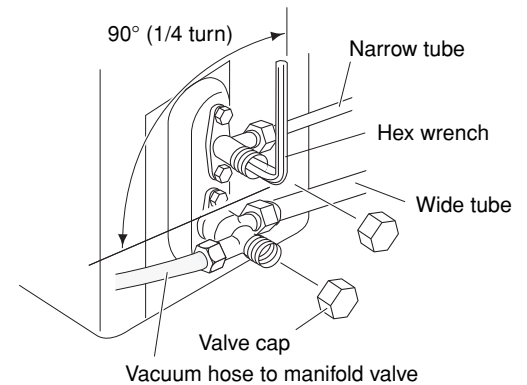

Fig. 28
- With the accessory hex wrench, turn the valve stem on the narrow tube service valve counter-clockwise by 90 degrees (1/4 turn) for 10 seconds, and then turn the stem clockwise to close it again. (Fig. 28)